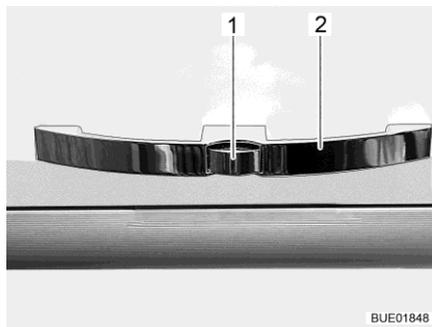
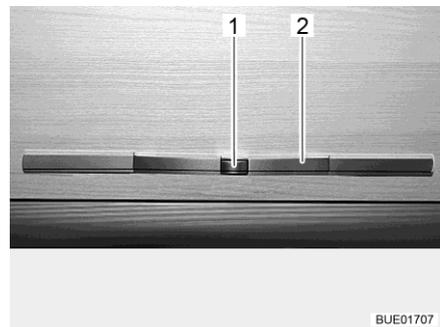

Fig. 63 Furniture flap with handle (example)
Fig. 64 Furniture flap with handle (alternative)
- Press the release knob (Fig. 63,1 or Fig. 64,1) on the handle (Fig. 63,2 or Fig. 64,2) and hold it down.